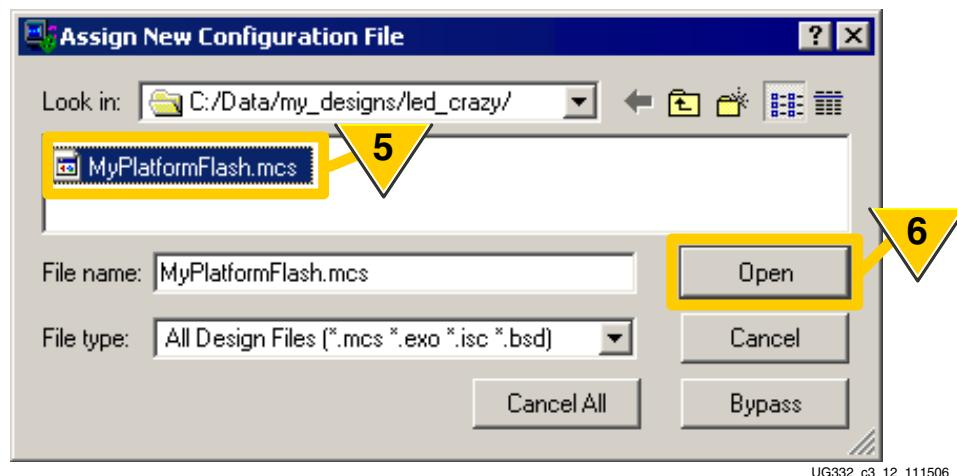

Figure 3-17: Select the Platform Flash Programming File
- As shown in Figure 3-17, select the PROM data file to be programmed to the Platform Flash PROM.